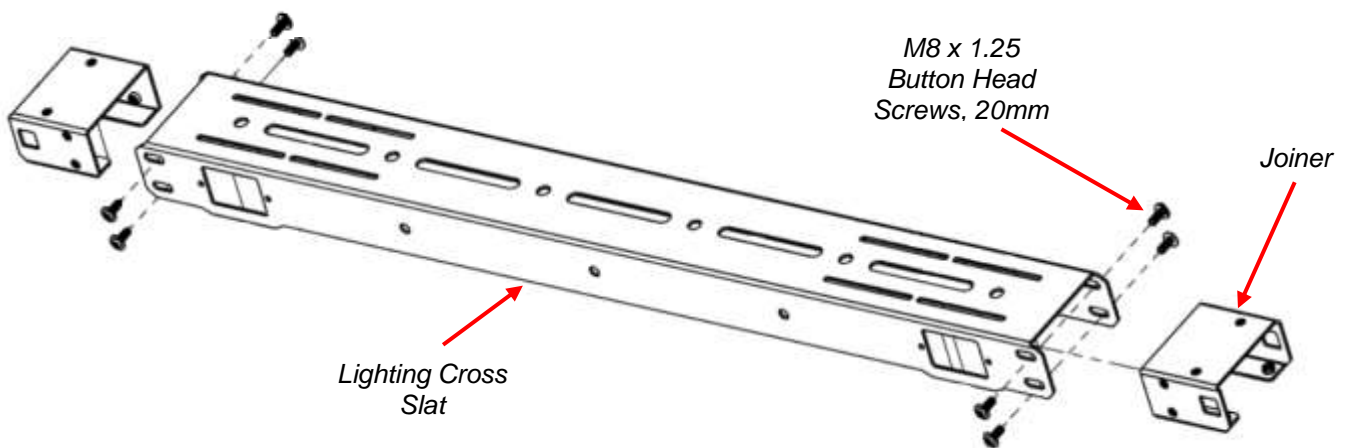

Figure 2
3. Repeat *Step 2* for the Lighting Cross Slat. Locate the Lighting Cross Slat, (2) two Joiners, and (8) eight M8 x 1.25 Button Head Screws, 20mm. Position the Joiner into the Lighting Cross Slat as seen in *Figure 2* below. Using (4) four M8 x 1.25 Button Head Screws per side, attach the Joiners to the Lighting Cross Slat and loosely thread in the M8 x 1.25 Screws.